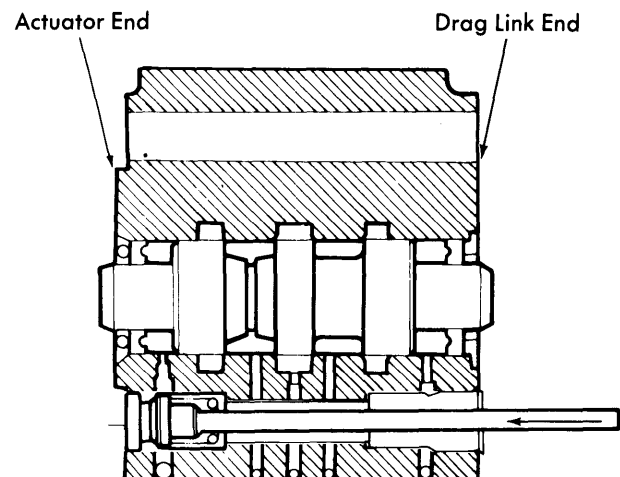

Fig. 2 Pressing Reaction Limit Plug from Control Valve Body
2) Carefully lift control valve body over the spool bolt. Remove reaction limit plug from control valve body (drag link end). Remove reaction limit spring, washer and plunger. Now remove reaction limit plug at actuator end of control valve body. **NOTE** — If plug has a press fit, use a $\frac{5}{16}$ " diameter rod approximately four inches long to press plug out as shown in Fig. 2.